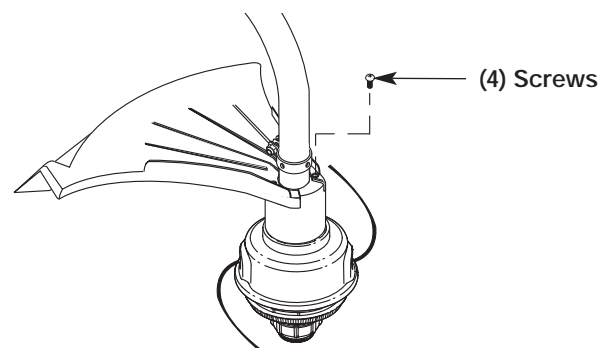

Fig. 10
3. Install the four (4) screws with a Phillips screwdriver (Fig. 10).